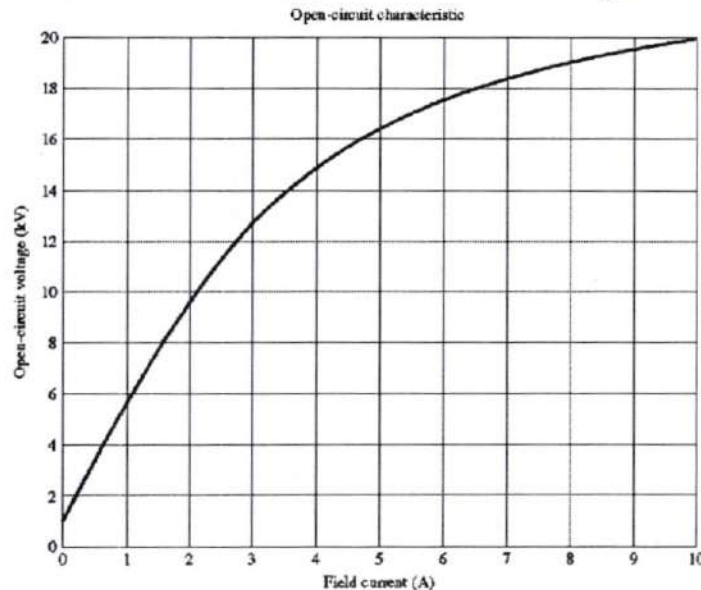

Figure 1. OCC curve for question 1 (a)
- a. 13.0 kV, 55-MVA, 0.95 power-factor-lagging, 50-Hz, and four-pole Y-connected synchronous generator has a synchronous reactance of 2.5 Ohm and an armature resistance of 0.2 Ohm. At 50 Hz, its friction and windage losses are 1 MW, and its core losses are 1.5 MW. The field circuit has a dc voltage of 125 V, and the maximum field current is 10 A. The current of the field circuit is adjustable over the range from 0 to 10 A. The OCC of this generator is shown in Figure 1.